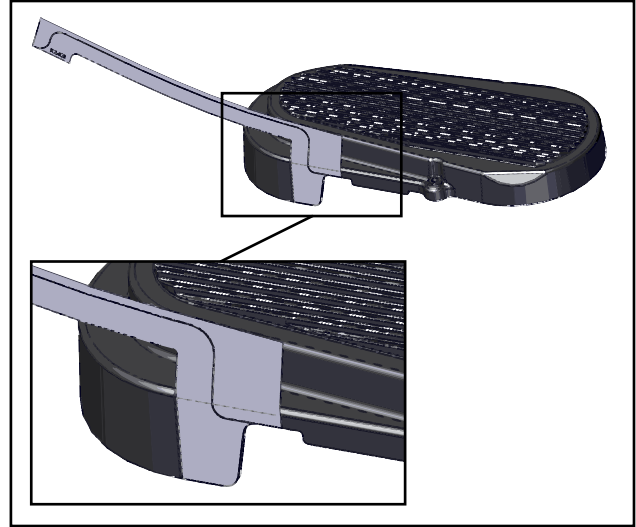

Fig. 3.11 (Start Applying Trim Template Decal)
- 3.11 Start applying the belt cover trim template decal at the bottom of the belt cover as shown in figure 3.11.